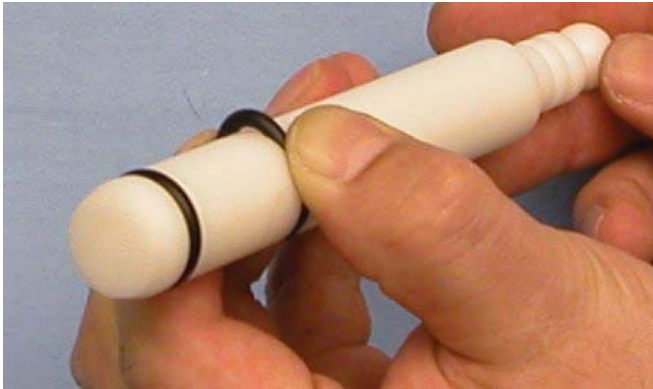

Figure 3-4 Removing O-Ring
4. Remove all o-rings from parts by first wiping off the lubrication using a clean towel. Then squeeze the o-ring upward to form a loop (Fig. 3-4). Roll the o-ring out of the groove.